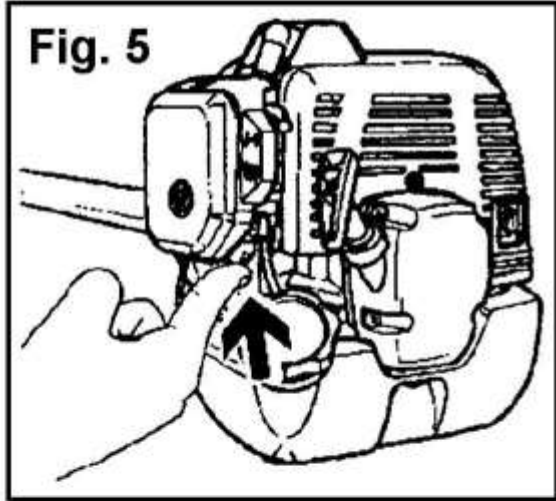
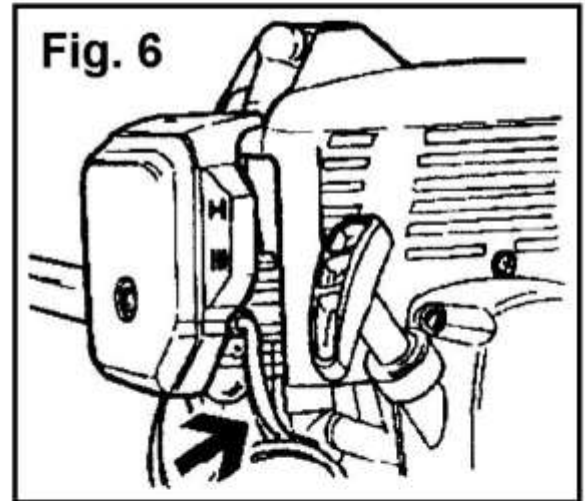

Fig. 5
Fig. 6
3. Repeatedly press the primer bulb (Fig.5) 5-10 times until the fuel is pumped back to the tank through the second transparent pipe (Fig.6).